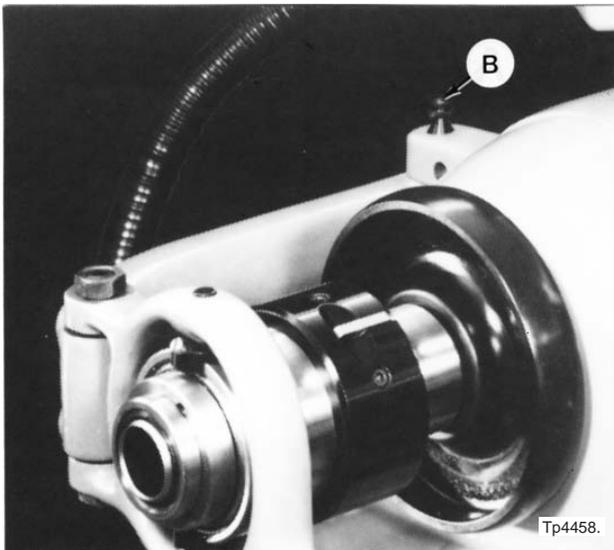

Figure 4.2 - Collet Closer Link Pin
Link pin "B", Figure 4.2, can easily be removed by lifting it up and out.
2. Remove link pin "B", Figure 4.2 .
5. Insert link pin “B”, Figure 4.2 .